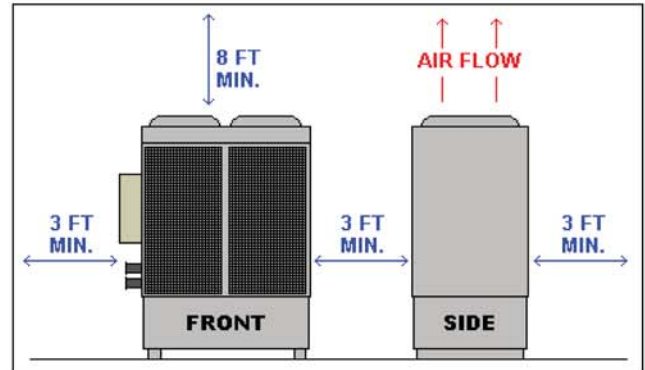

Figure 1. Minimum Installation Clearances
3. Ensure the unit is placed on a flat, level, hard surface. Unless the chiller has been built for outdoor operation, it must be placed indoors. Space above and around the unit must be capable of dissipating the heat rejected by the chiller and allow room for servicing. Keep the unit at least 3ft away from walls or other objects and allow full access to all openings and electrical enclosures. At a minimum, 8ft of clearance is required above the unit for proper air circulation around the chiller as shown in Fig 1.